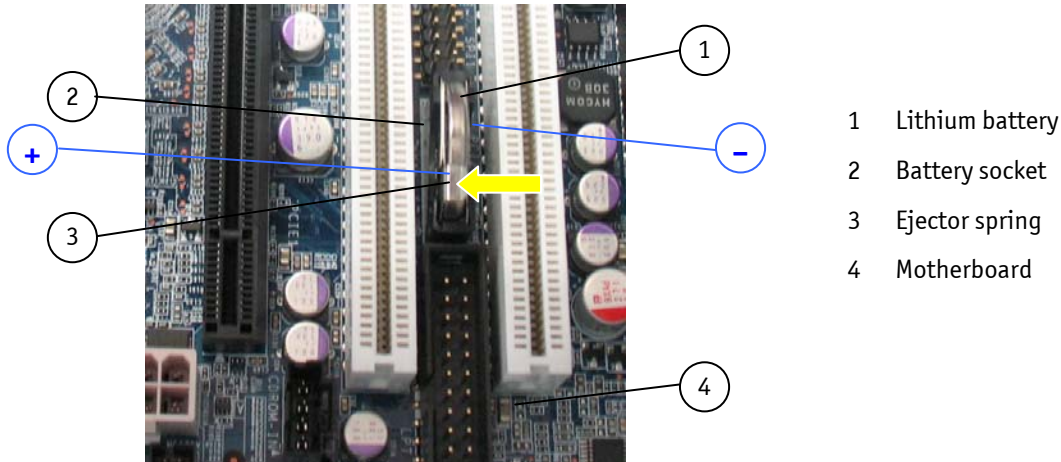

Fig. 48: Location of the Lithium Battery
5. Pay attention to the polarity of the battery; refer to Fig. 48.